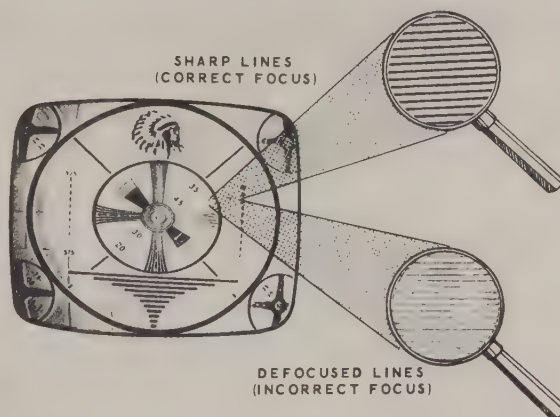

Figure 1-20
- () First turn the FOCUS control clockwise and counterclockwise while viewing the picture and note the effects this has. Adjust the Focus control for the sharpest separation between the trace lines in the center of the picture as shown in Figure 1-20. You may find that you have to get quite close to the picture to see these individual lines and to judge when they are most sharply defined. NOTE: It is not necessary to have a test pattern for this adjustment.